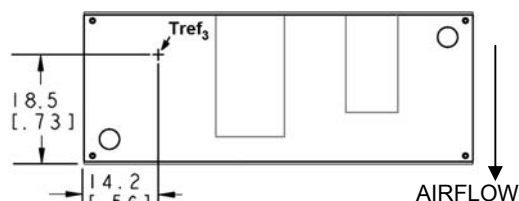

Figure 14. T_{ref} Temperature Measurement Location for Module with Heatplate.
The thermal reference point, T_{ref3} used in the specifications for modules with heatplate is shown in Figure 14. For reliable operation this temperature should not exceed 105°C.